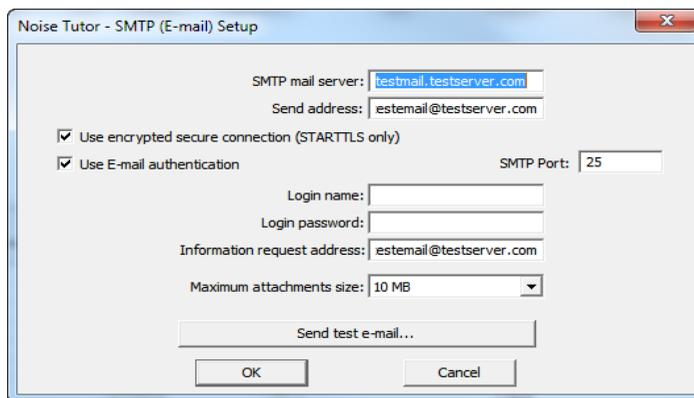

FIGURE 3-15 SMTP (E-mail) Setup
Step 2 Refer to FIGURE 3-15 while entering the following information: